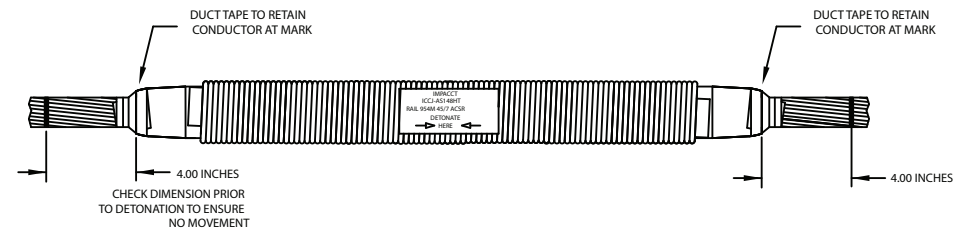

Fig. 6
6. The "Core Grip" assembly must remain tight against the aluminum strands prior to detonation. (Reference: Step 4.) To maintain a tight assembly: use "Duct Tape" to secure. Wrap onto end of barrel, then conductor, to hold conductor tight within assembly. See Fig. 6. Measure from end of Joint to 4-inch "Mark" to ensure the conductor has not pulled out.